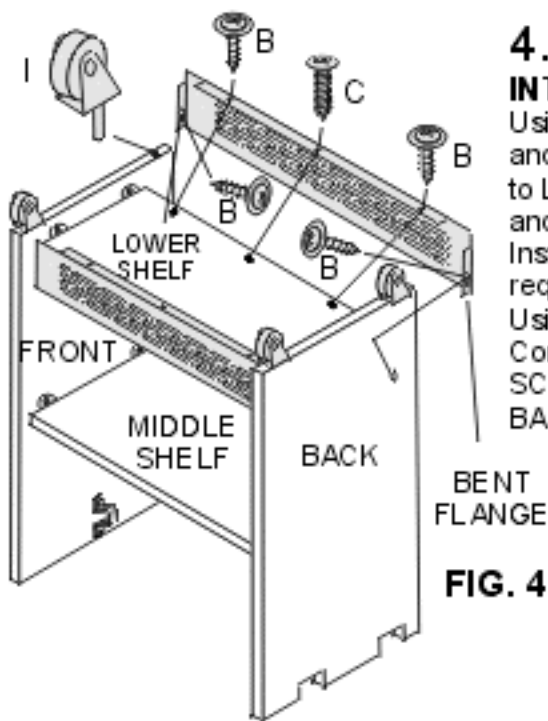

FIG. 4
Using 2 people, Carefully flip unit over to rest on top edges of FRONT and BACK. Align and attach (2) PERFORATED STEEL BASKET SIDES to LOWER SHELF using (4) #8 x 7/16" WASHER HEAD SCREWS (B) and (2) #8 x 7/16" TRUSS HEAD SCREWS (C) as shown FIG.4. Install (4) CASTERS (I) into CASTER SOCKETS, some force may be required to "click" into place. FIG.4